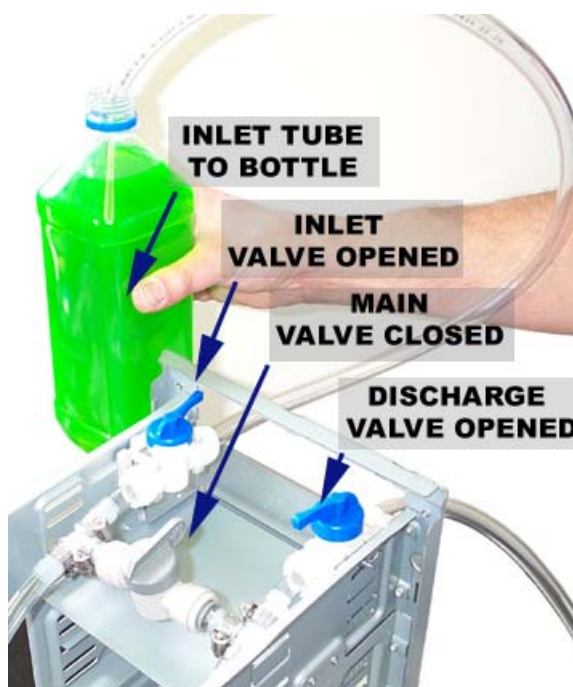
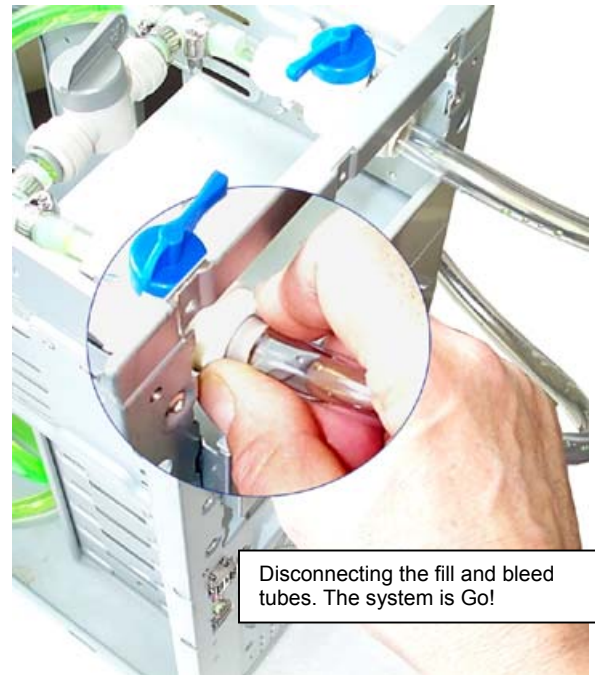

Figure 7
Figure 12
- ❑ Close the main valve as shown in Figure 7.
Connect the 2 precut tubes that came with your kit to inlet and discharge valves of the fill & bleed kit, and set the valves as shown Figure 7. The extremity of the inlet tube should be pushed all the way down the bottom of the feed bottle.
Note the orientation of the valve levers in Figure 7. Since the valves close clockwise, positioning the valves as shown here will orient the valve levers towards each other once closed, which is easier to reach if your case does not feature a removable top (see closed valve position Fig 12 page 8)
Visually inspect your lines for any traces of air, and if none are observed, close both inlet and discharge valves as shown in figure 12.
Disconnect the fill and bleed tubes from the valves as shown figure 12. Removing tubes from quick-connect fittings is quite easy but takes a little practice:
The FBK525 inlet and discharge valves feature two little “ears” on the collet, which ease the removal process: **Firmly hold the tube in the cradle formed by three fingers, and push against the ears with thumb and index fingers. This will disengage the tube from the fitting. Correct position of the hand and fingers is shown in figure 12.**